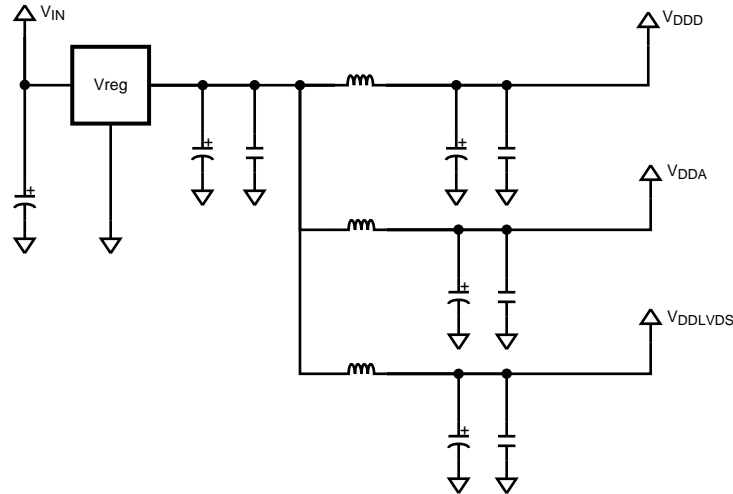

Figure 42. Recommended Setup for Powering Device
1. Use Figure 42 configuration for powering the device.